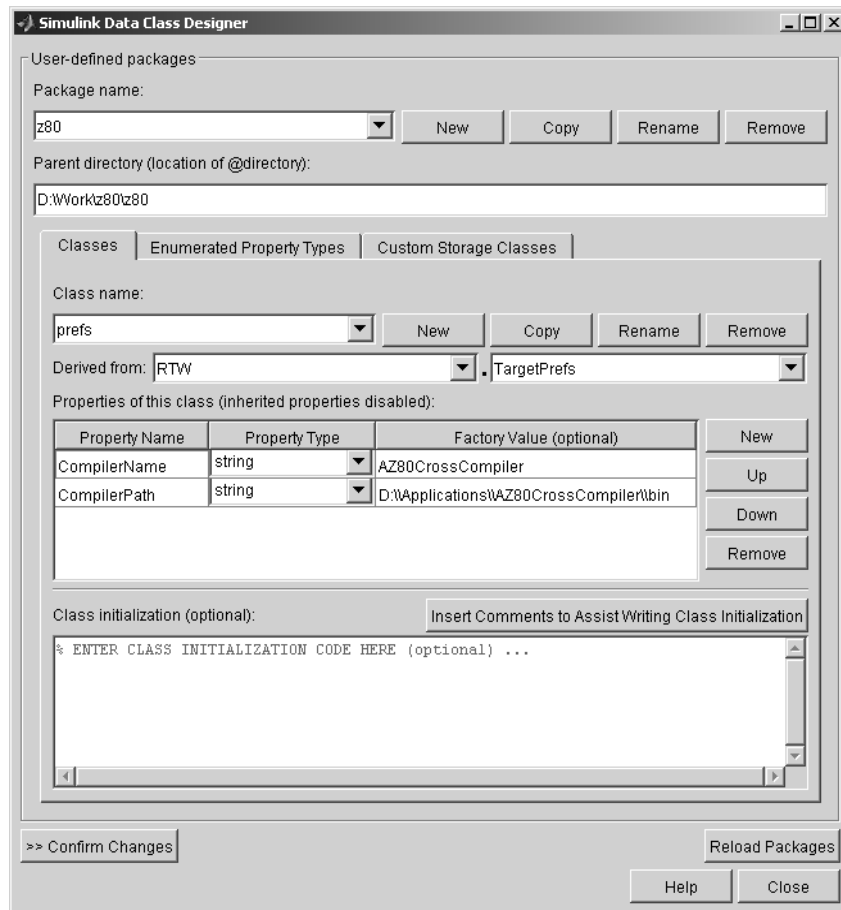

Figure 8-2: Property Definitions for z80.prefs Target Preferences Class
- 9 Populate the list of properties by entering several property names and assigning data types and factory (default) values to them. (see “Defining Class Properties” in the Simulink documentation.) Figure 8-2 below shows the **Properties of this class** field with two sample properties defined.
Note Due to a Data Class Designer bug in the current release, you must enter embedded backslashes in string property values as double backslashes ('\\'). If you use single backslashes ('\') errors may result. For example, in Figure 8-2, the default value for CompilerPath is entered as D:\\Applications\\AZ80CrossCompiler\\bin. MATLAB will correctly parse the extra backslashes as escape sequences; therefore pathnames will be returned correctly from your target preferences objects.
As an example, consider the preferences for the z80 target defined in “Creating Your Target Preferences Class” on page 8–4. A package/class `z80.prefs` is defined with properties `CompilerName` and `CompilerPath`, as shown in Figure 8-2.